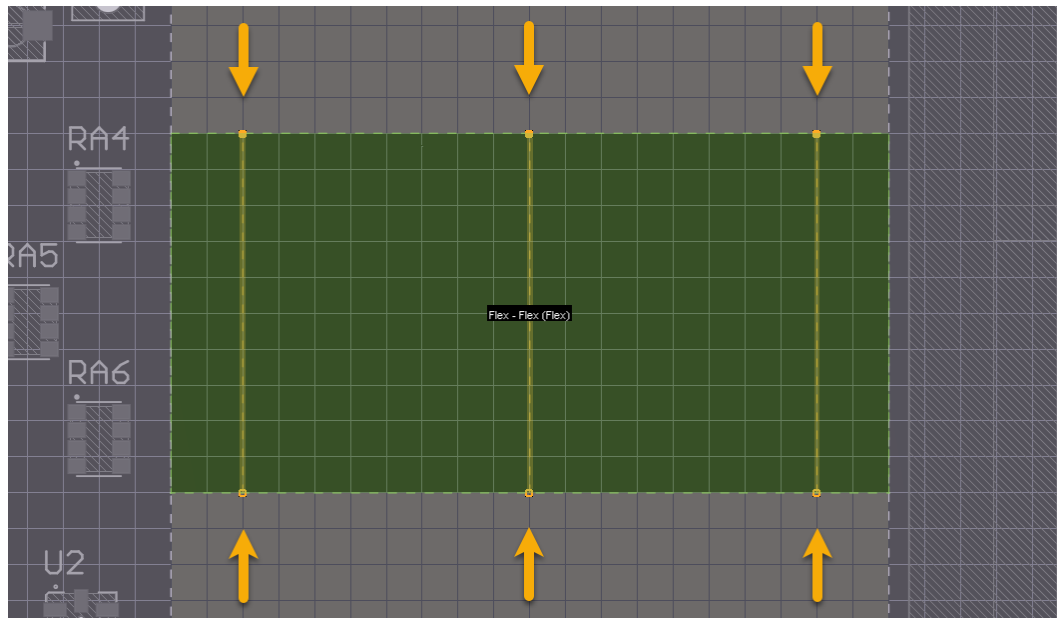

Figure 11. Three Bending Lines added to Flex region
28. Add another bending line in the middle of the flex board between (2500, 2000) and (2500, 1000). The three lines should appear as shown in Figure 11.